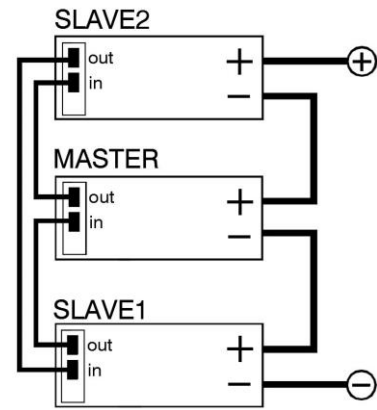

Figure 6.7: Optional Master/ Slave series-connected operation
- For easier and coordinated control of series-connected units, the optional Master/Slave interface module is recommended. The series connected units will behave as a single system, see Figure 6.7 for an overview schematic.